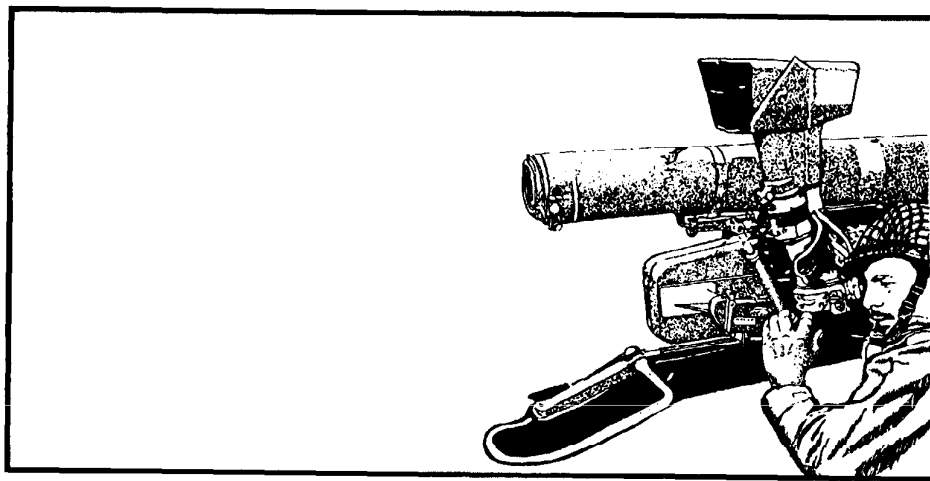

Figure F-7 AT-4 Spigot.
- c. **AT-4 Spigot** (Figure F-7, page F-6).